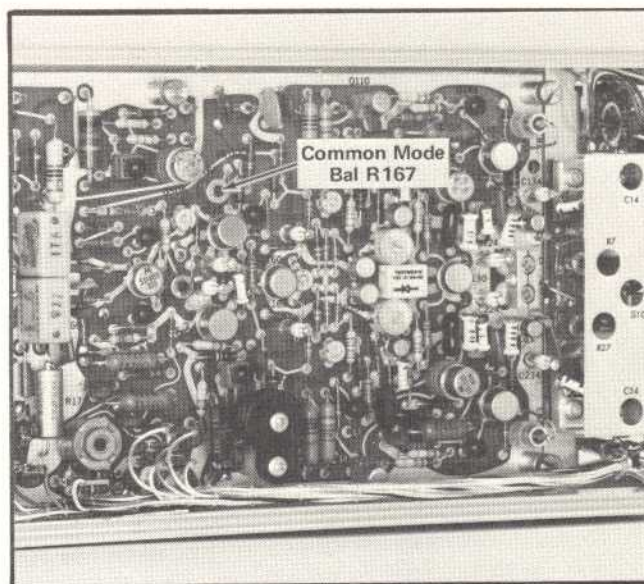

Fig. 5-6. Partial view of Input board showing adjustment location for step 11.
e. ADJUST—If tolerance is exceeded, adjust the Common Mode Bal control R167 (see Fig. 5-6) for quickest return of trace (with minimum final trace drift) to within 0.5 mV from graticule center.